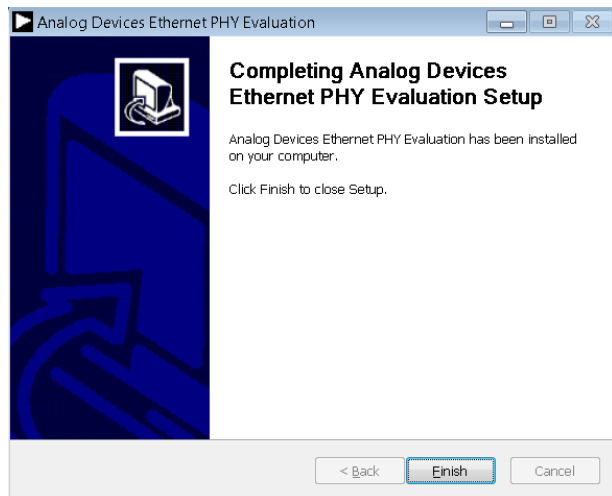

Figure 12. Installation Complete
7. A window appears stating that the installation is complete. Click **Finish** to continue (see Figure 12).